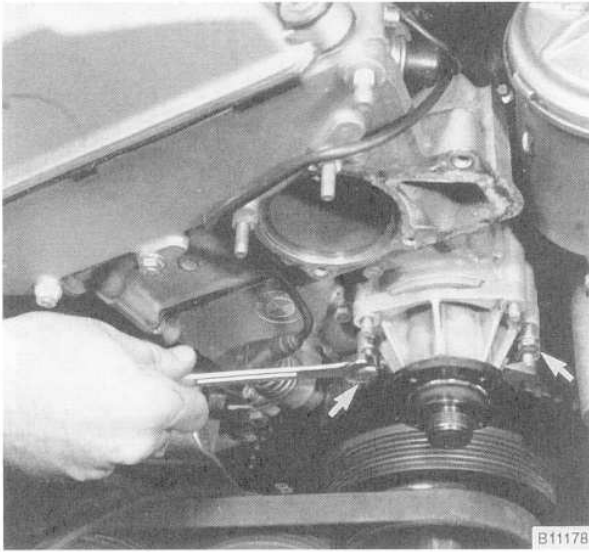

Fig. 13. Coolant pump being removed using two M6 bolts (arrows). Thread bolts in evenly to withdraw pump.
7. Using two M6 bolts, thread them into ears on either side of pump. Then slowly and evenly turn bolts in until pump is drawn out. See Fig. 13.